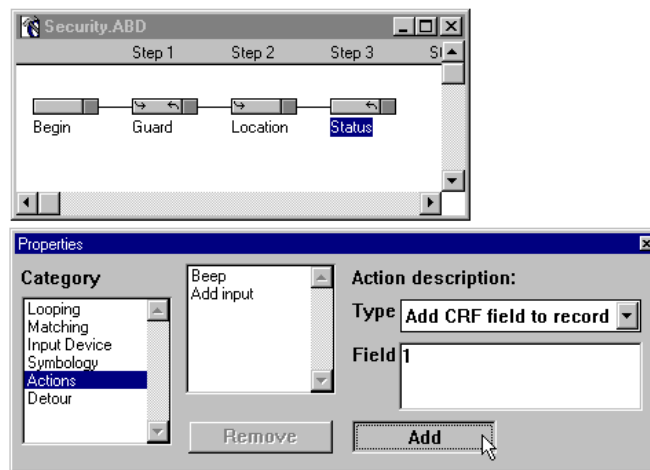

Figure 3-100 Actions Property - Adding CRF Field Description
j) Click **Add** (Figure 3-100) to add the new description to the action list.